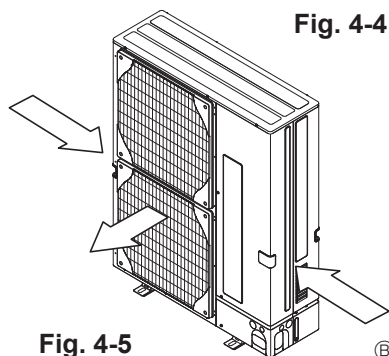

Fig. 4-5
- ③ Position the unit so that the air outlet blows perpendicularly to the seasonal wind direction, if possible. (Fig. 4-5)